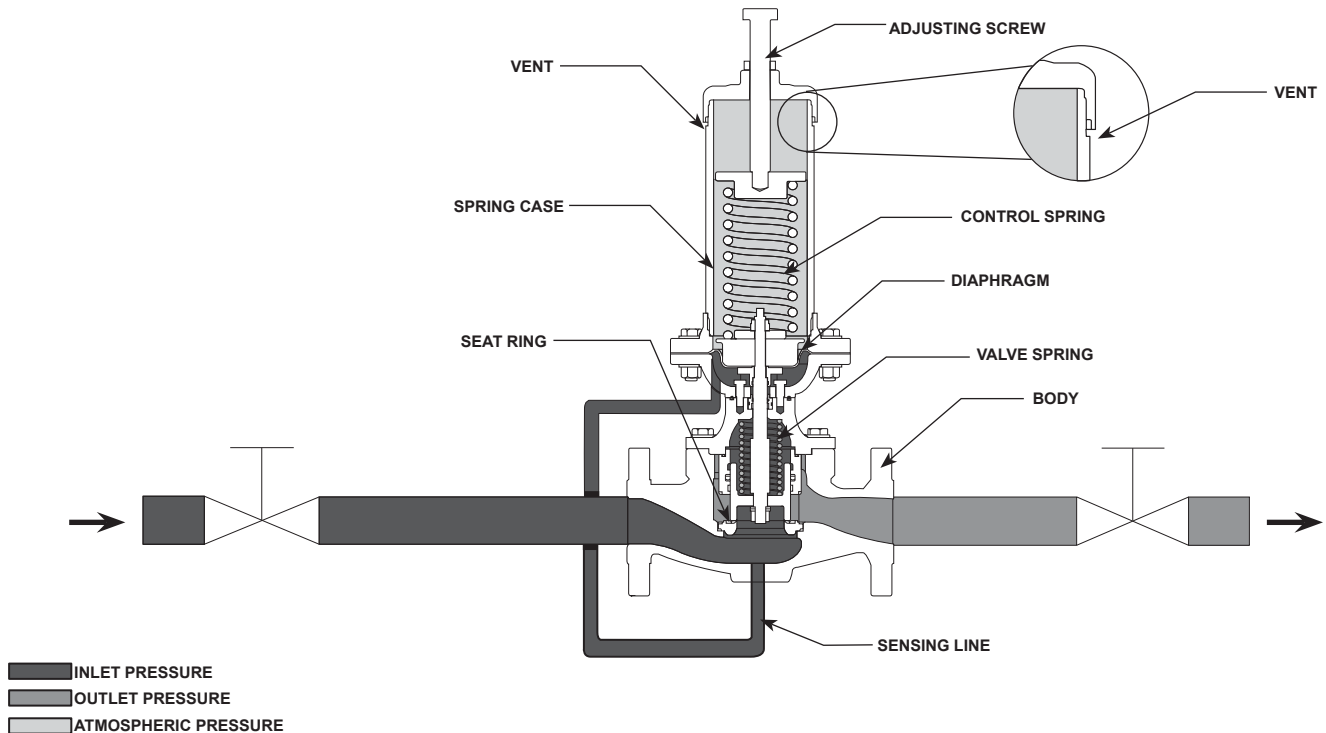

Figure 2. Type CT88 Backpressure Regulator Operational Schematic
See Figure 2. Type CT88 direct-operated backpressure regulator responds to changes in inlet pressure. Inlet pressure is registered on the underside of the diaphragm through an external sensing line that is connected to the lower diaphragm casing.
1. Close the inlet block valve (see Figure 2).